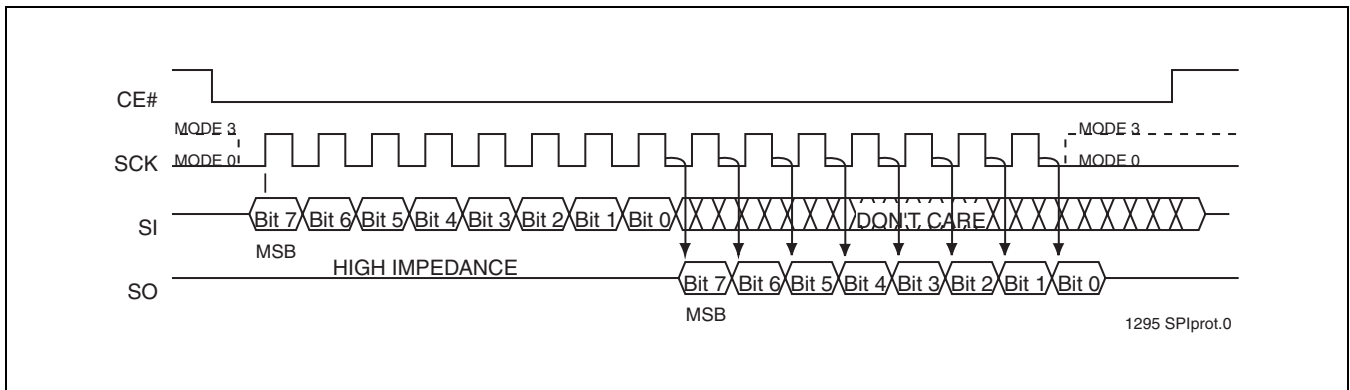

FIGURE 3: SPI Protocol
The PCT25VF040B supports both Mode 0 (0,0) and Mode 3 (1,1) of SPI bus operations. The difference between the two modes, as shown in Figure 3, is the state of the SCK signal when the bus master is in Stand-by mode and no data is being transferred. The SCK signal is low for Mode 0 and SCK signal is high for Mode 3. For both modes, the Serial Data In (SI) is sampled at the rising edge of the SCK clock signal and the Serial Data Output (SO) is driven after the falling edge of the SCK clock signal.